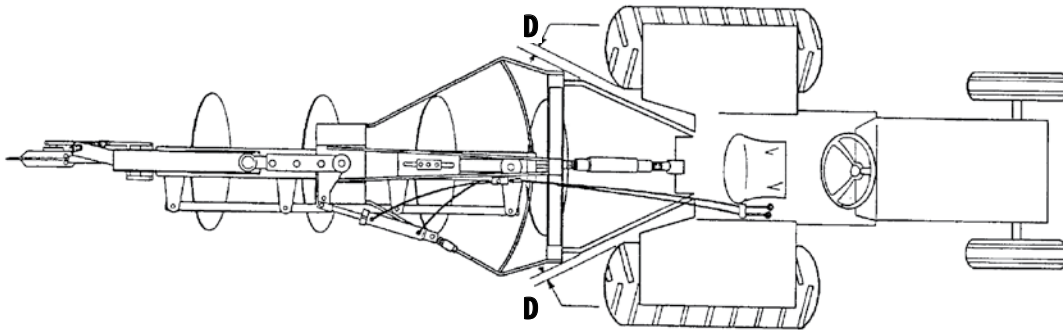

Figure 5
- 02 - Align the top hitch of the plow with the 3rd point of the tractor, checking if the distances "D" from the lower arms are equal in relation to tractor tires, as Figure 5. To align, do it through the stabilizers. The lower arms should be leveled in relation to each other.